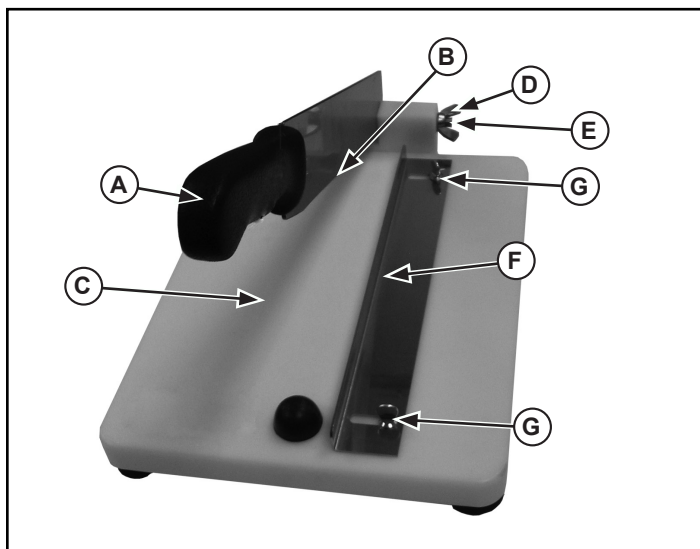

Figure 1. Features and Controls, Lobster King.
1. Lift the handle (A) and place the lobster tail onto the base (C) positioning along the guide (F). See Figure 1.
2. Loosen the thumb screws (G) and adjust the guide (F) so that the blade rests in the desired position of the lobster tail, if necessary.
3. Hold the handle (A) firmly and press down. This will cut the tail approximately 7/8 of the way through.
1. Loosen the wing nut (D), remove the bolt (E), handle (A) and blade (B). See Figures 1 and 2.
2. Remove the thumb screws (G) and the guide (F). See Figure 1.
7. Install the thumb screws (G) and the guide (F). See Figure 1.
8. Install the blade (B) and handle (A) onto the base (C). Secure with bolt (E) and wing nut (D).